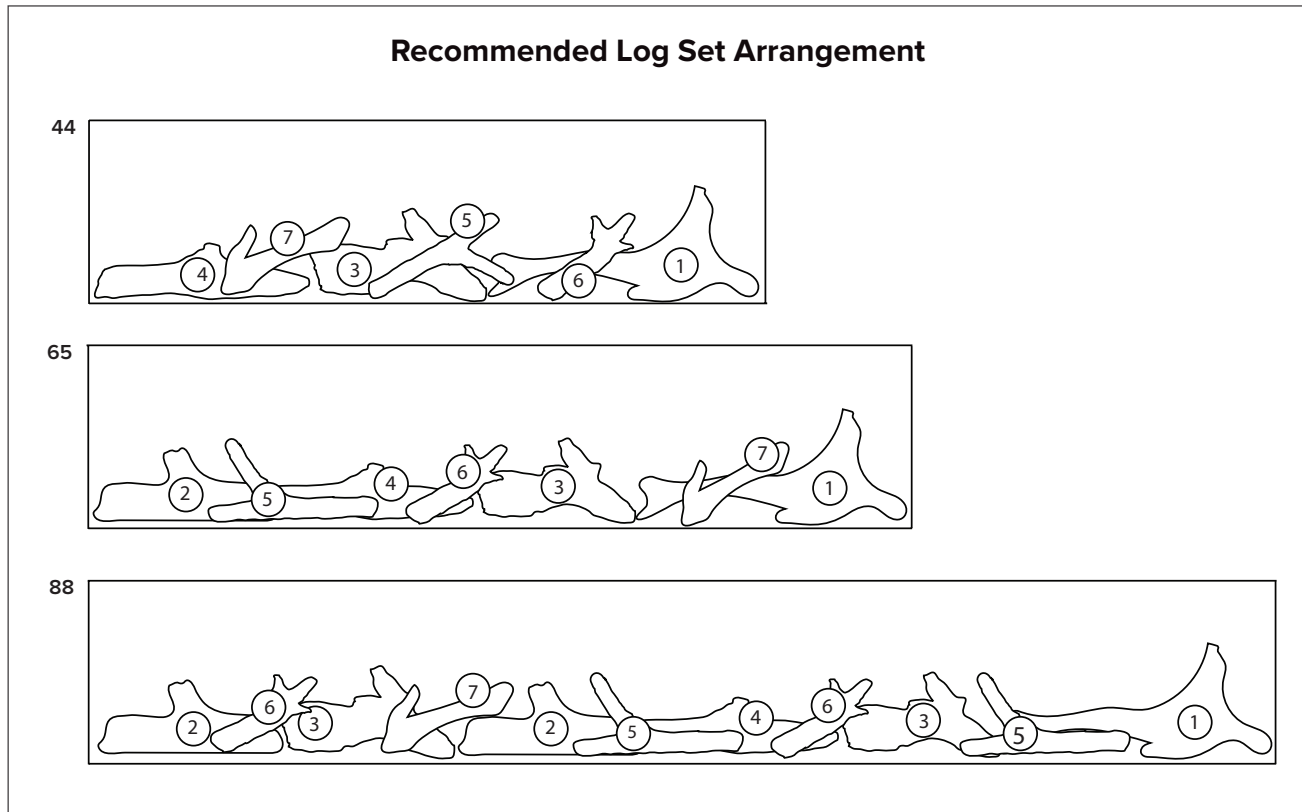

Fig. 13
2. Place the logs into desired position. The recommended layout for each model size is shown below in **(Fig 13)**. This can be changed based on desired layout.